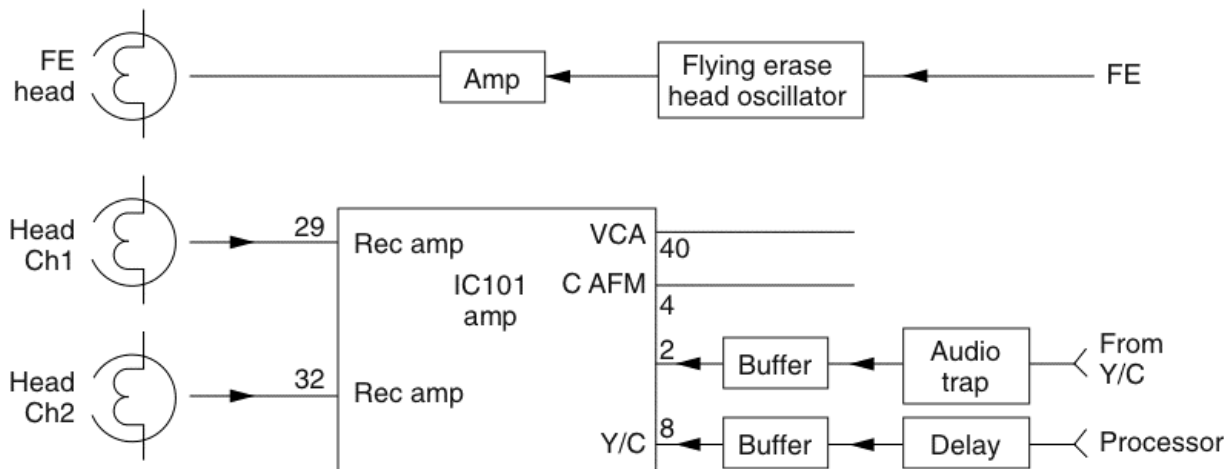

FIGURE 35-5 Typical 8-mm video recording circuits.
The camera luma (Y) signal inputs at the syscon servo block of IC605 and IC604. The signal is fed from pin 7 of IC605 to pin 30 of the Y/C process IC201. Likewise, the chroma (C) is fed in at terminal 53 of Y/C process IC201. The video record signal appears at output pin 39 (Y) and 8 (C) of IC201. The luma signal is fed through a delay line and buffer stage to the preamp IC101 (Fig. 35-5). The chroma output of pin 8 of IC201 is fed through an audio trap and buffer transistor to pin 2 of preamp IC101.